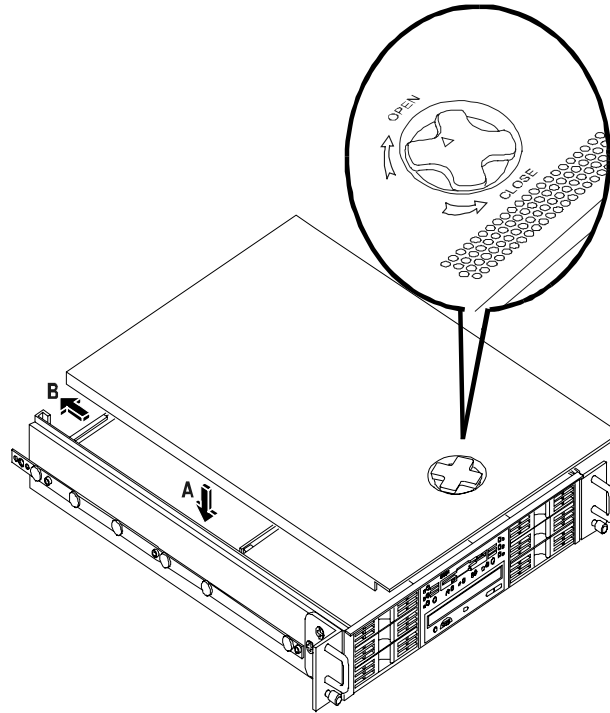

Figure 2-3. Replacing the Cover
1. Ensure the knob on the cover is turned to the Open position (clockwise). See Figure 2-3.
3. Turn the knob to the Closed position (counter-clockwise). See Figure 2-3.